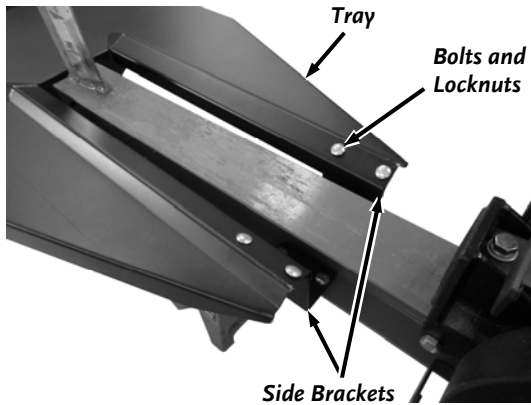

Figure 6
6. For easier alignment in the following step, slightly loosen the Side Bracket Hardware using a 9/16" Wrench (**Figure 6**).